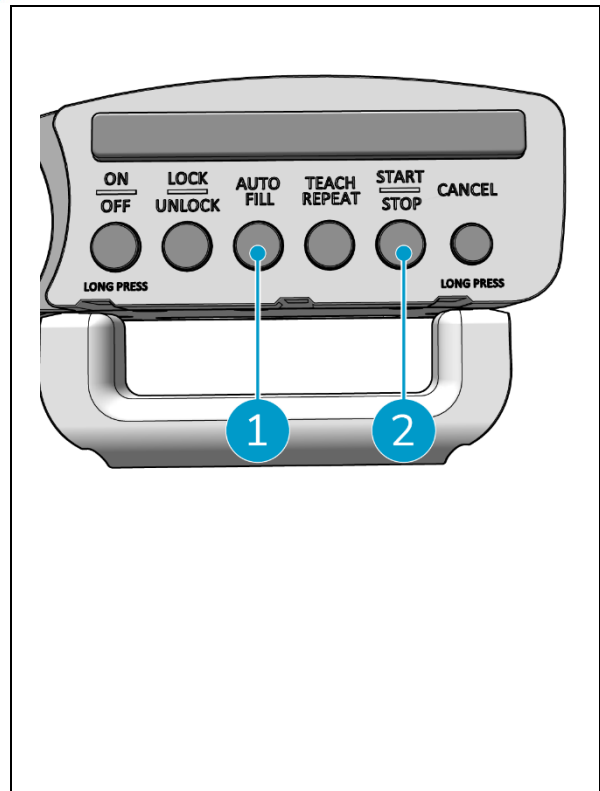

Figure 26
2. Press the Auto Fill button (Figure 26, pos. 1). The Auto Fill button will be white.
4. Press the Start button (Figure 26, pos. 2) to begin the automatic cleaning. After cleaning, the i-walk returns to the starting point and automatically stops.
5. Press the Stop button (Figure 26, pos. 2) at any time during the cleaning to stop the i-walk, and use the app to edit the cleaning map, see 6.5.4.